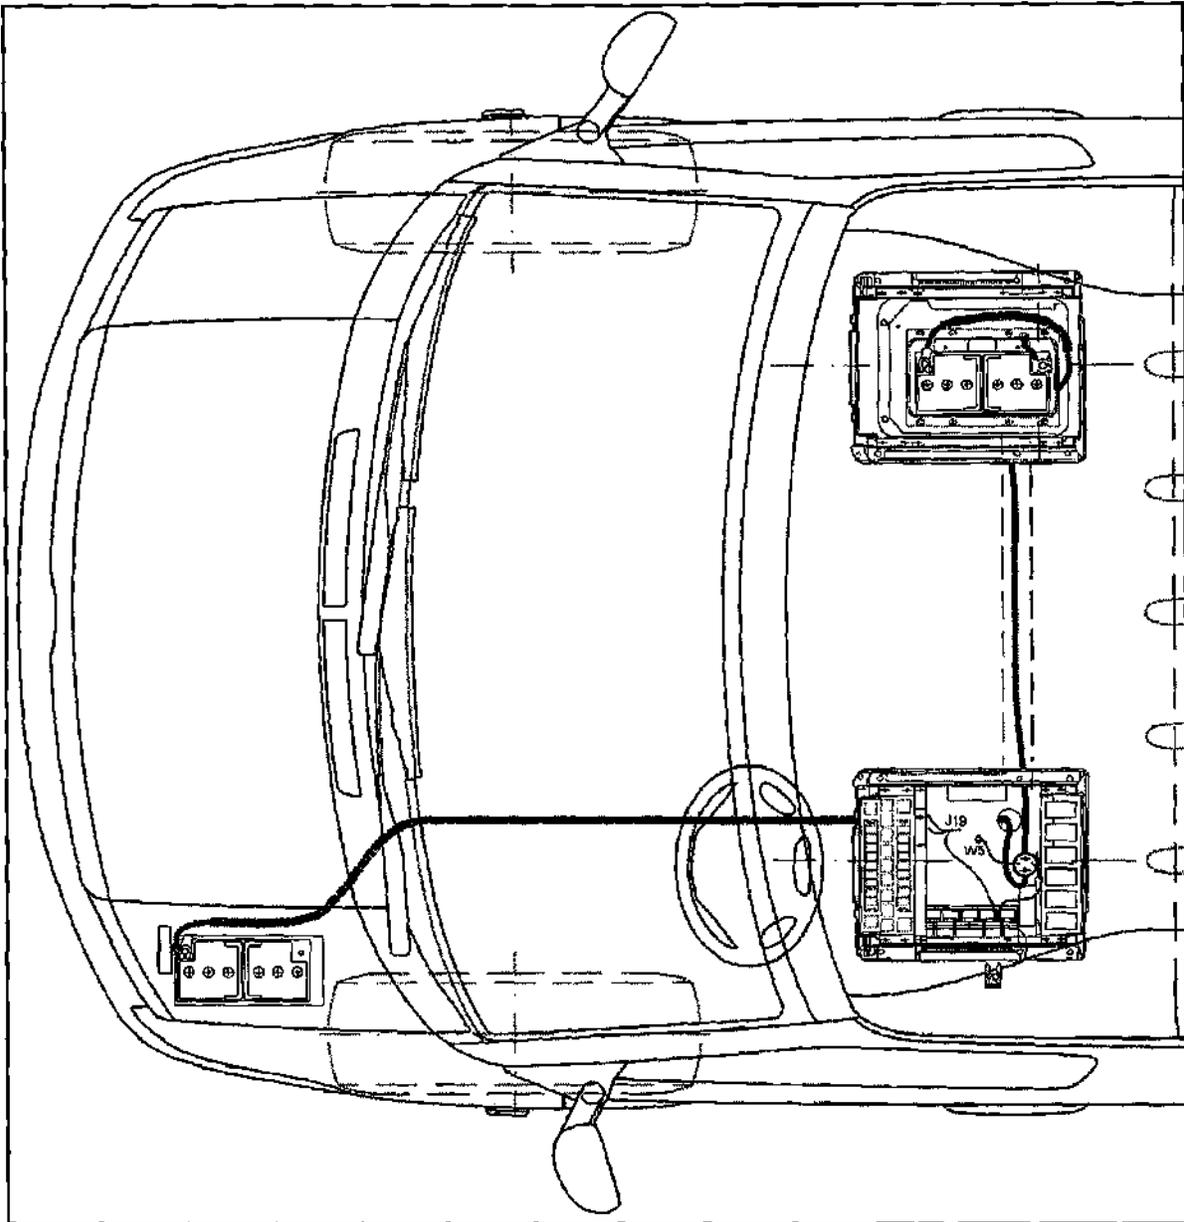

Fig 10, Auxiliary battery wiring layout
15. Remove the nut that holds the high current fuse box bracket to the main battery positive terminal. See **fig.10**. Install a ring terminal N 046234 008001 on the end of the battery cable. Cover the crimped end of the ring terminal with heat shrink tubing. Connect the cable to the bracket and reinstall the nut.